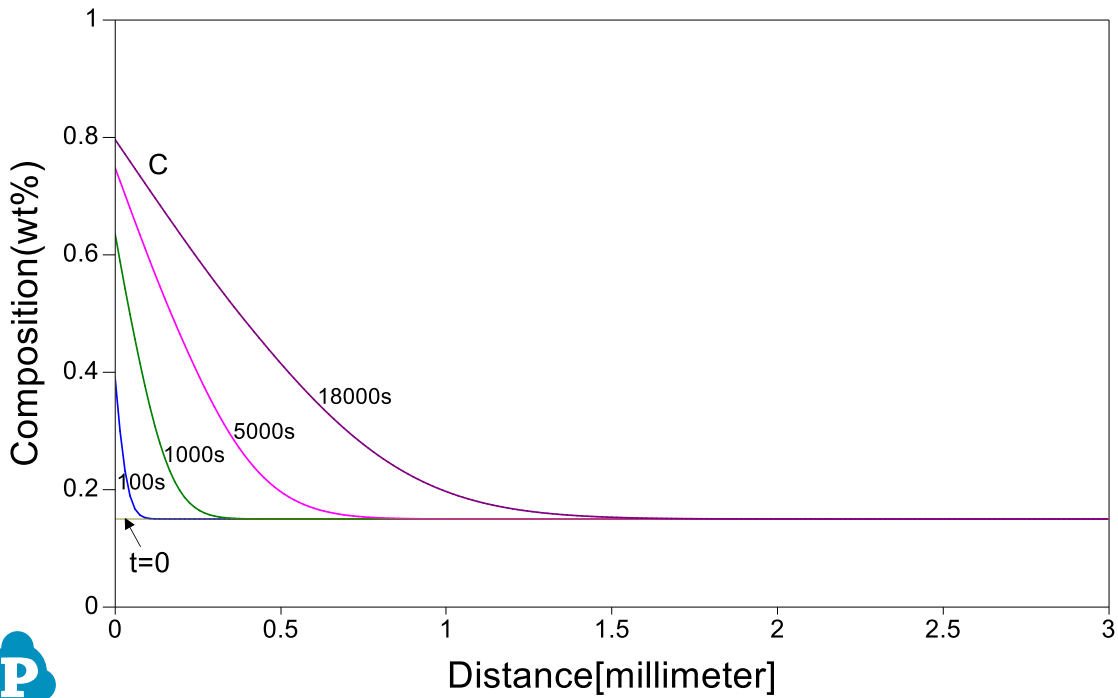

Figure 4.7.2: Calculated C composition profiles for diffusion at 1173 K for 100s, 1000s, 5000s, and 18000s
- The calculated plot is shown in Figure 4.7.2. Enlarge the composition range between 0 and 1 (wt%) to clearly display Carbon composition. Add text and change graph appearance following the procedure in Pandat User's Guide 2.3.1;